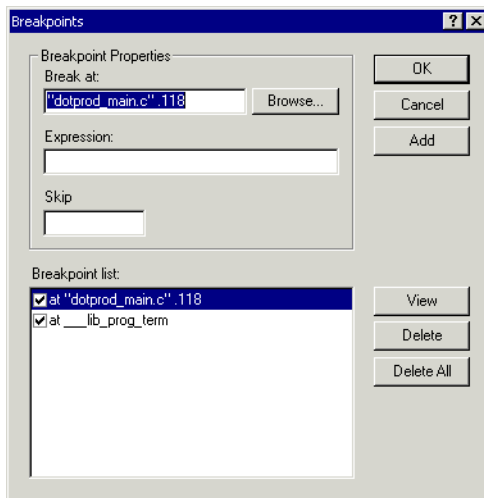

Figure 3-6. Breakpoints Dialog Box
6. From the **Settings** menu, choose **Breakpoints** to view the breakpoints set in your program. VisualDSP++ displays the **Breakpoints** dialog box, shown in Figure 3-6.